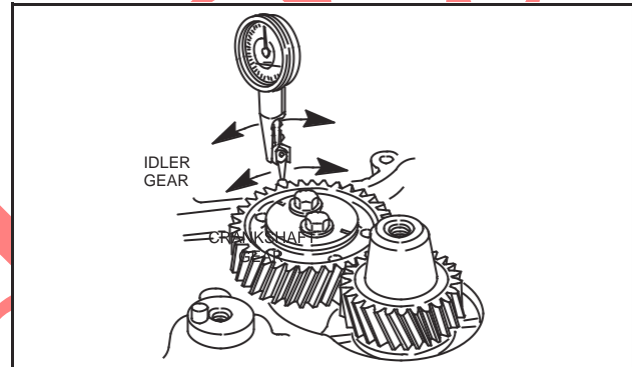

Fig. 6 – Checking Idler Gear Backlash
**Make sure that #1 cylinder is at TDC, compression stroke. See Section 2, Fig. 6.**
1. Check gear backlash between idler gear and crankshaft gear using dial indicator as shown in Fig. 6.